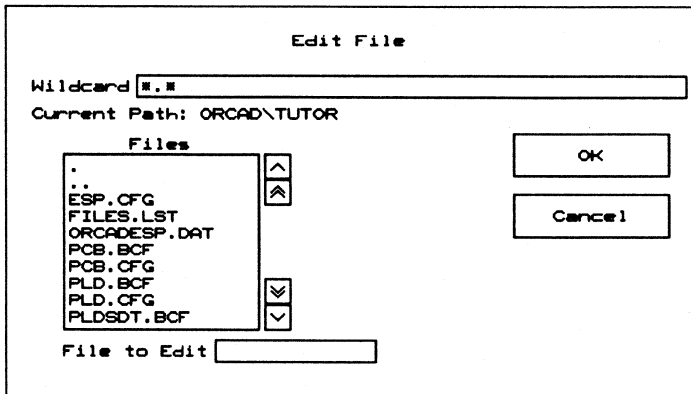

Figure 2-21. *Edit File window.*
1. Select **Edit File**. The window shown in figure 2-21 displays.